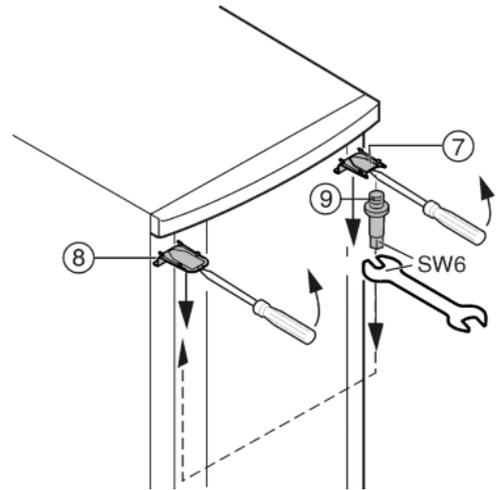

Fig. 6
- At the top, use a screwdriver to unclip cover Fig. 6 (7) and cover Fig. 6 (8) at the front, and remove by pulling out and down.
- Unscrew the bearing pin Fig. 6 (9) and screw it firmly into place on the opposite side (with 4 Nm).
- Refit the cover Fig. 6 (7) on the side of the bearing pin: insert at the back, snap in at the front.
- Fit the cover Fig. 6 (8) on the opposite side: insert at the back, snap in at the front.
- Hang the door on the bearing pin Fig. 6 (9) at the top.